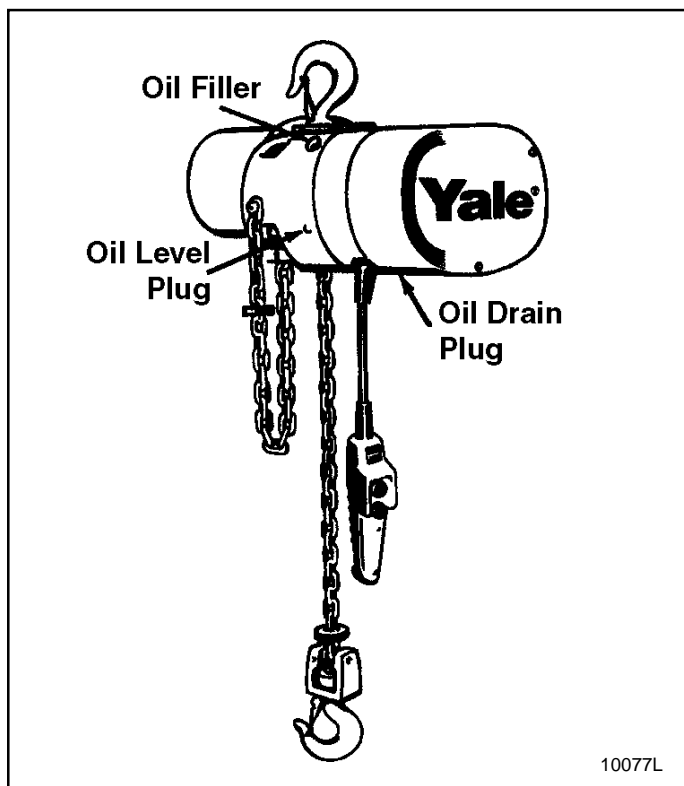

Figure 4-1. Location of Oil Filter and Plugs
4-2. CHANGE GEAR CASE OIL (Fig. 4-1).
(1) Check to see that bolts securing motor to frame are tight. Also check for any visible damage to motor, such as a cracked end bell or dented stator housing. Replace damaged parts.
(2) Check hoist frame for signs of visible damage. If frame shows evidence of fracture, the hoist should be disassembled and inspected for further signs of damage from possible overloading. Replace damaged parts. Also check condition of limit lever.
(3) Check for possible damage to electrical compartment cover. Be sure screws holding cover are tight.
e. Check Oil Level. Remove oil level plug (fig. 4-1). If oil level is not even with bottom of tapped hole, add Automatic Transmission Fluid, DEXRON Type, to bring to proper level.